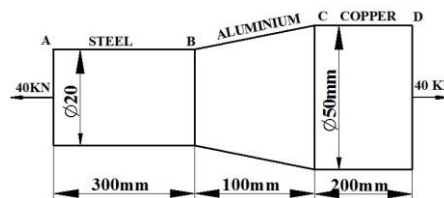

Figure 4
21. A stepped bar subjected to an external loading as shown in **Figure 4**, Calculate the change in the length of the bar. Take $E = 200\text{GPa}$ for Steel $E = 70\text{GPa}$ for Aluminium and $E = 100\text{GPa}$ for Copper (Dec 07/Jan 08)